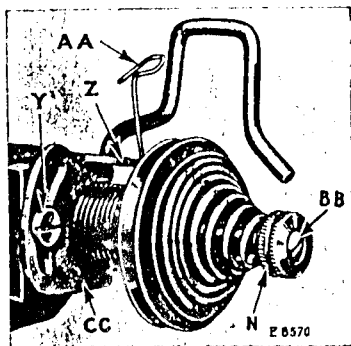

FIG. 14. ADJUSTMENT OF THE THREAD TAKE-UP SPRING
The thread take-up spring (AA, Fig. 14) should be adjusted so that when the eye of the needle reaches the goods on the downward
stroke of the needle bar, the spring will rest against the thread take-up stop (Z, Fig. 14).
If the take-up spring is not correctly set as instructed above, loosen the screw (Y, Fig. 14) which holds the regulator plate in position and raise or lower the plate (CC, Fig. 14) as required. When the spring is correctly set, securely tighten the screw (Y).
To regulate the tension on the take-up spring (AA), loosen the tension stud screw (BB, Fig. 14) and move the spring to the left for more tension or to the right for less tension. It is necessary to hold the spring in the desired position until the tension screw has been tightened.